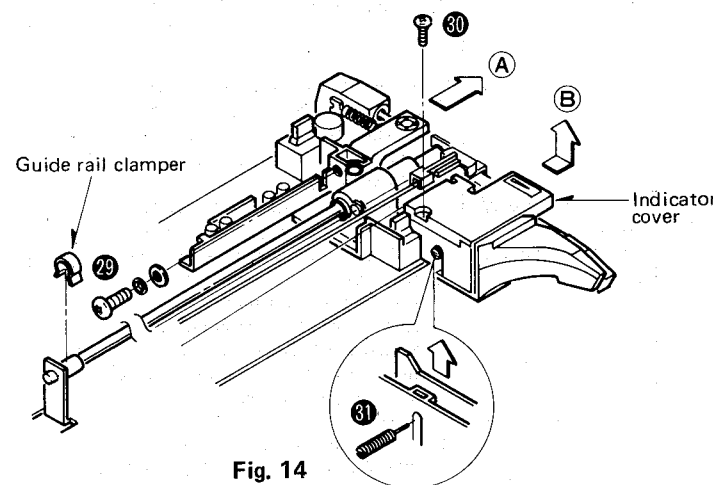

Fig. 14
5. Remove the tonearm setscrew. (Fig. 14 : 29 )
6. Remove the guide rail clamber, and pull out the guide rail, the remove the tonearm in the direction of the arrow (A).
2. Remove the indicator cover setscrew (Fig. 14: 30 ) and the indicator cover in the direction of the arrow (B).
3. Remove the offset angle detection circuit board adjustment screw (Fig. 14: 31 ), then the offset angle detection circuit board can be removed.